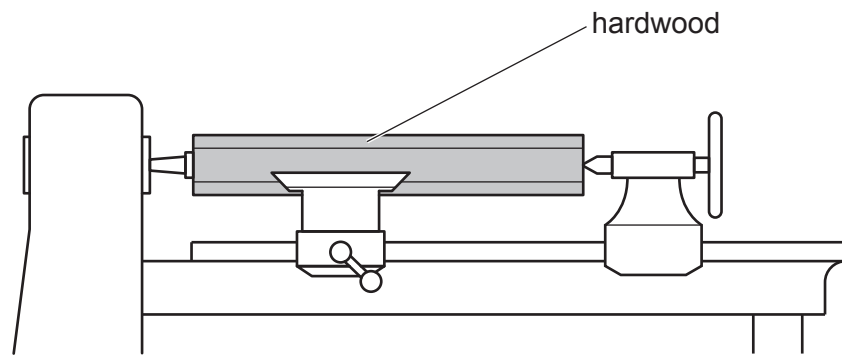

Fig. 12.4
- (ii) Fig. 12.4 shows a length of hardwood set up on a woodturning lathe.